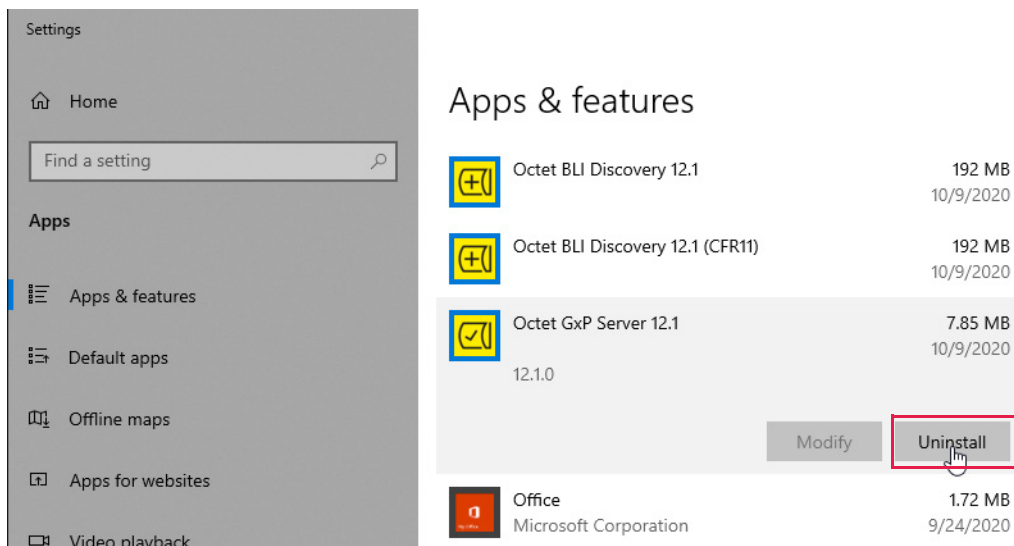

Figure B-12: Uninstall Octet® GxP Server
2. Click on Octet® GxP Server, and then click **Uninstall** (Figure B-12).